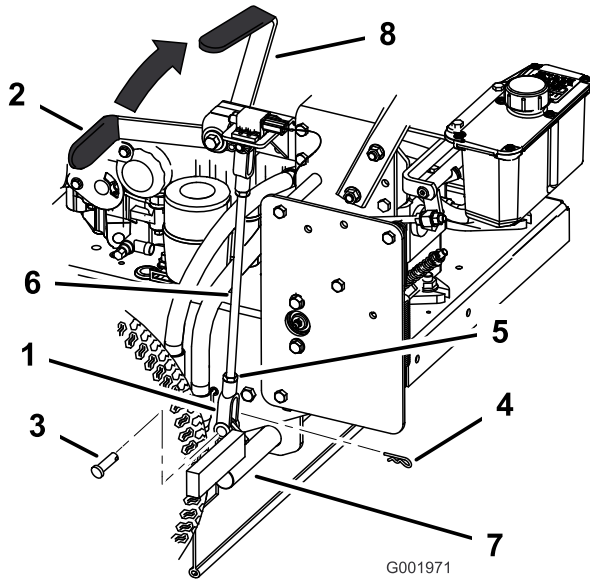

Figure 61
5. Loosen the top and bottom jam nuts (Figure 61).
6. To adjust the brake, remove the hair pin cotter and clevis pin from the lower brake lever (Figure 61).
7. Rotate the brake rod in the yokes. To tighten the brake, lengthen the rod between the yokes. To loosen the brake, shorten the rod between the yokes (Figure 61).
8. Secure the yoke to lower brake lever with the hair pin cotter and clevis pin (Figure 61).
9. Tighten the top and bottom jam nuts (Figure 61).